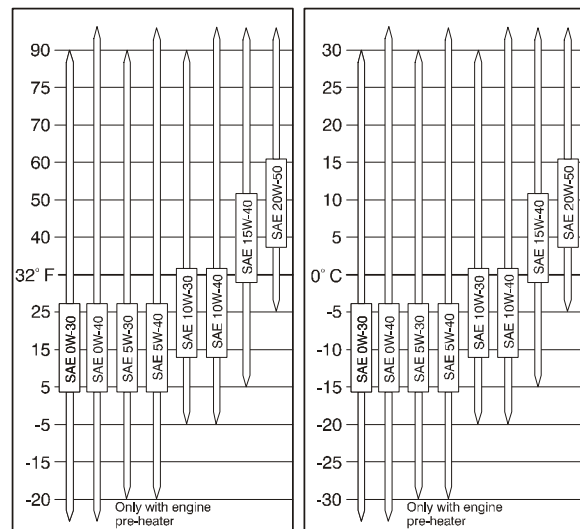

Figure 3-99. Engine Oil Viscosity
7. Pour in new engine oil. Refer to Section 1 for capacity and Figure 3-99. Engine Oil Viscosity.